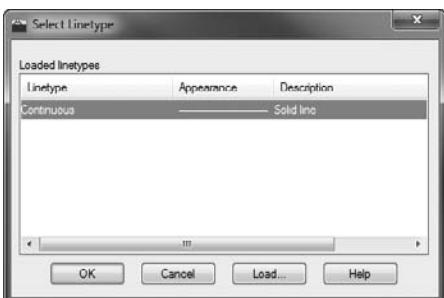

FIGURE 6.13 The Select Linetype dialog box
2. In the Layer Properties Manager dialog box, click Continuous in the column for the A-ROOF layer to open the Select Linetype dialog box (see Figure 6.13). In the Loaded Linetypes list, only Continuous appears. No other linetypes have been loaded into this drawing.